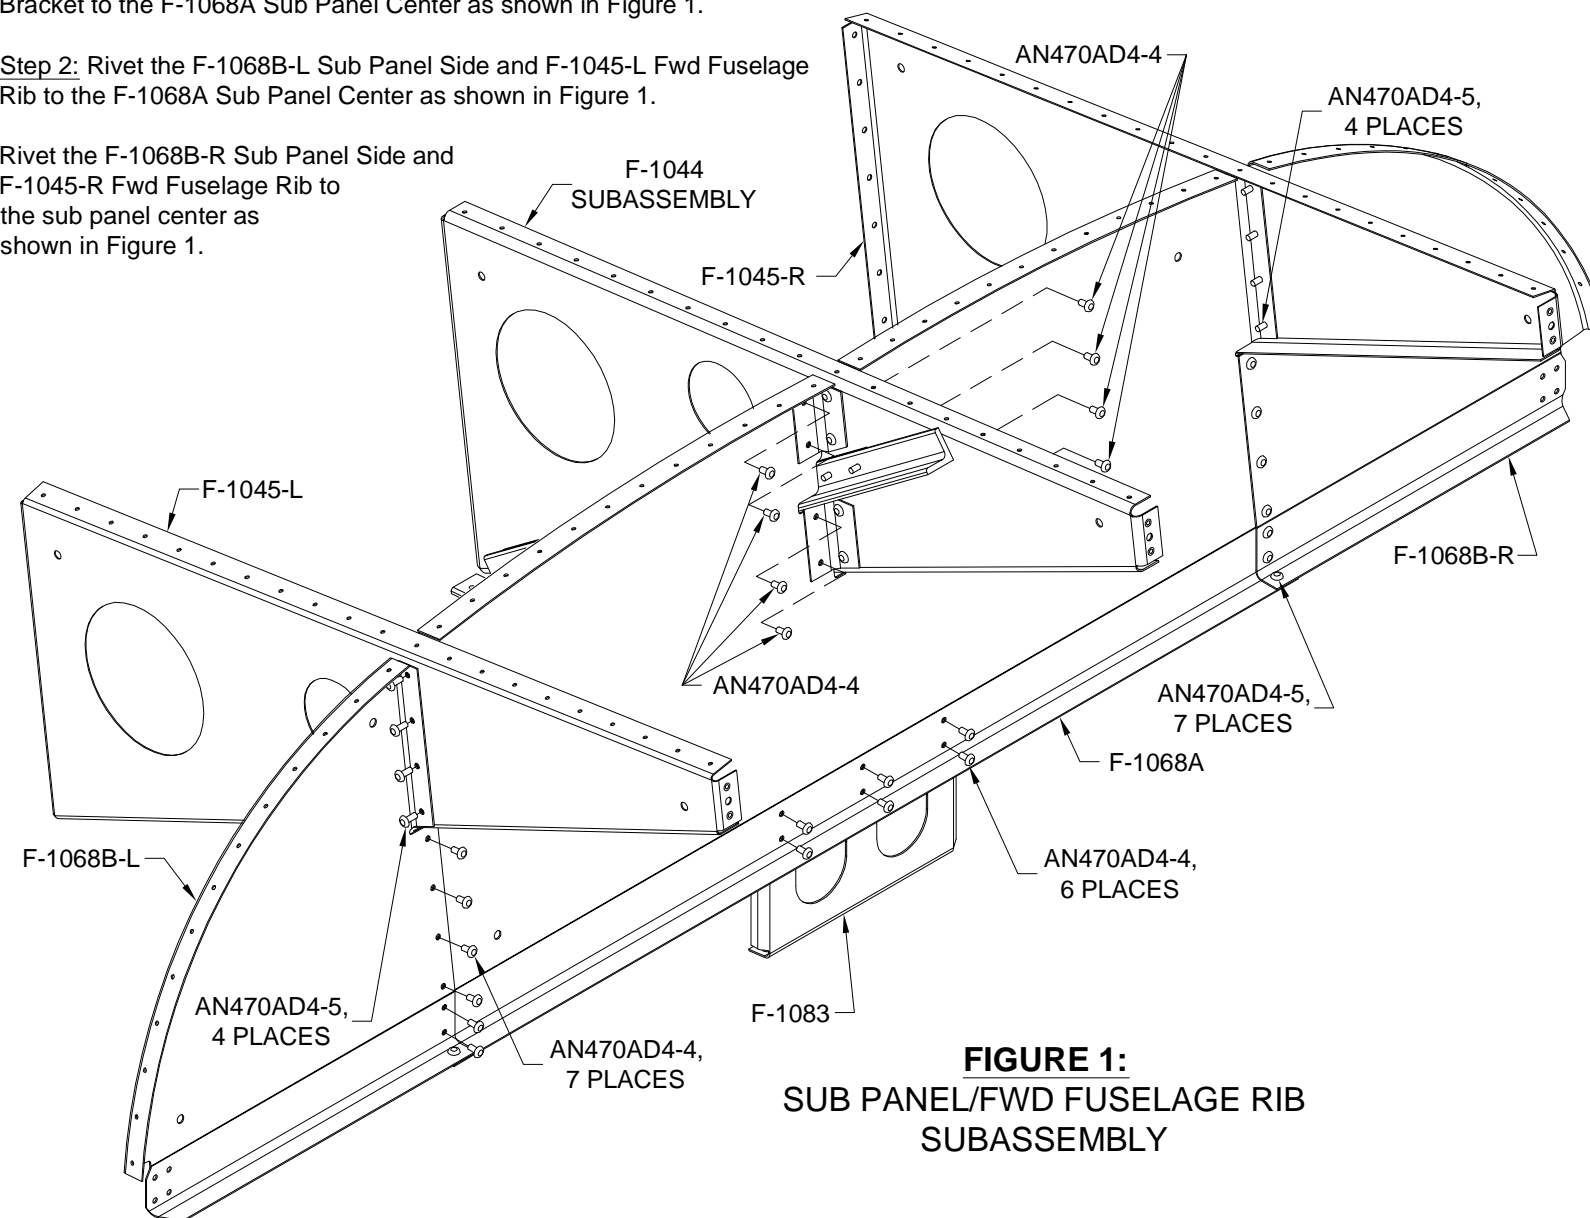

FIGURE 1:
Step 1: Rivet the F-1044 Fwd Fuselage Rib Subassembly and F-1083 Control Cable Bracket to the F-1068A Sub Panel Center as shown in Figure 1.
Step 2: Rivet the F-1068B-L Sub Panel Side and F-1045-L Fwd Fuselage Rib to the F-1068A Sub Panel Center as shown in Figure 1.
Rivet the F-1068B-R Sub Panel Side and F-1045-R Fwd Fuselage Rib to the sub panel center as shown in Figure 1.